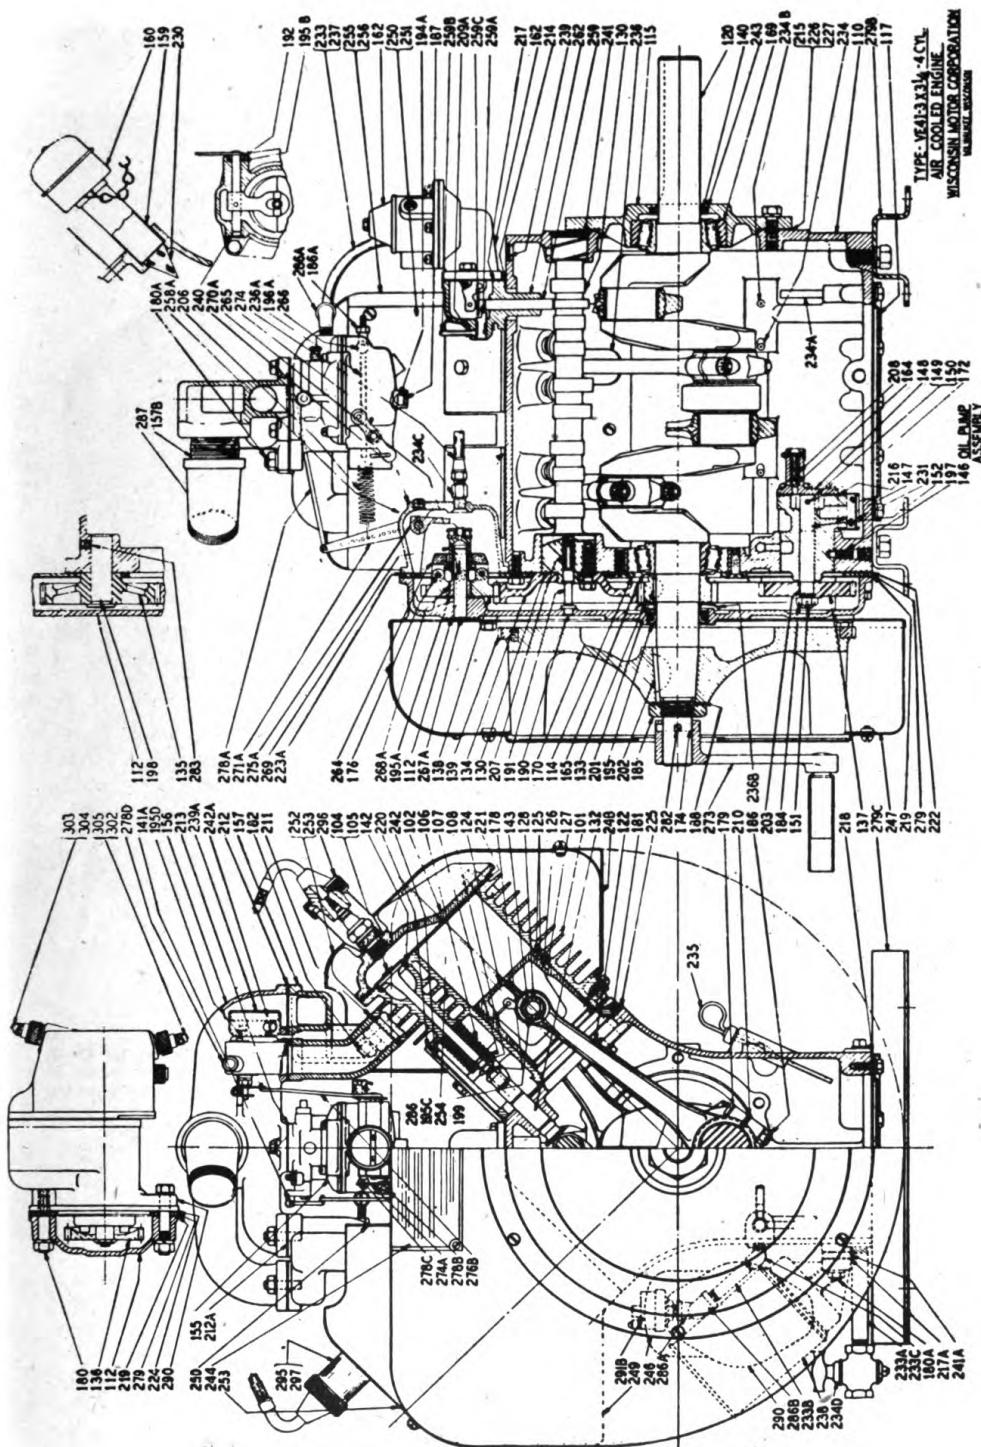

Figure 12.—Power Unit PE-99-B, engine cross section
47. TABLE OF REPLACEABLE PARTS.—*a. Engine (figures 12, 13, 14 and 15).—*